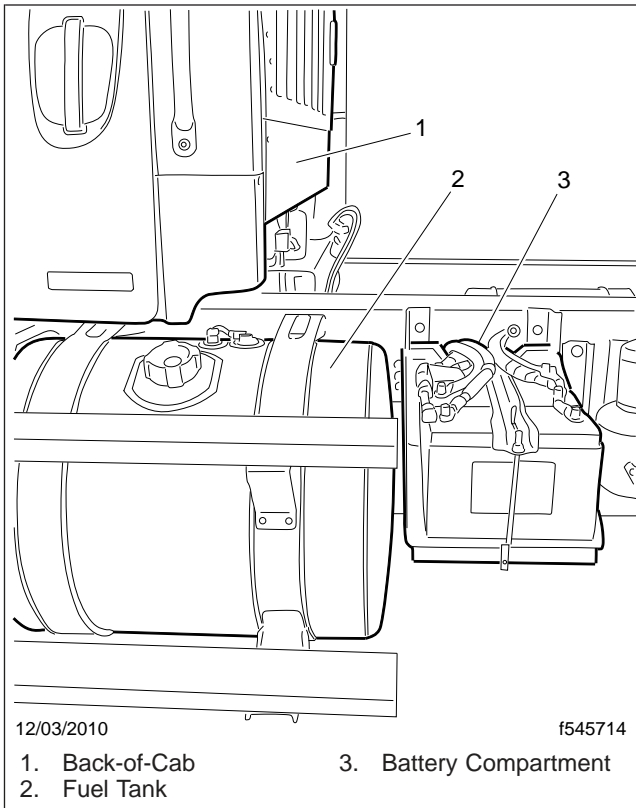

Fig. 21.15, Standard Battery Compartment Location
- 2.1 Remove the battery box cover and inspect all visible battery cables for loose wiring or damage. See Fig. 21.15.